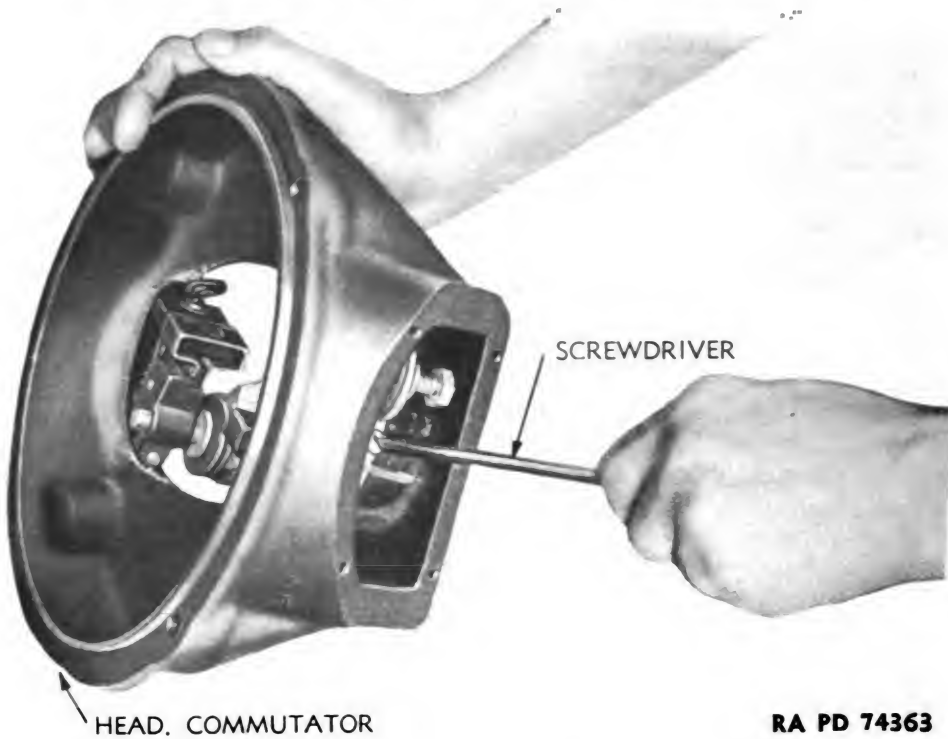

Figure 207 — Exciter Brush-holder Ring Insulation
(1) Insert pole piece through each field coil with insulation sheet in between. Bring each coil assembly into place in field body with another insulation sheet between and secure to body with cap screws. Carry leads marked F1, A1-, and A2+ outside field body through holes provided.
(2) Press shaft bearing into commutator head and pulley end cap.
(3) Slip brush-holder ring onto commutator head flange, turn ring until line on ring coincides with line on head casting rib, and then secure ring to flange with fillister-head screws (fig. 207).